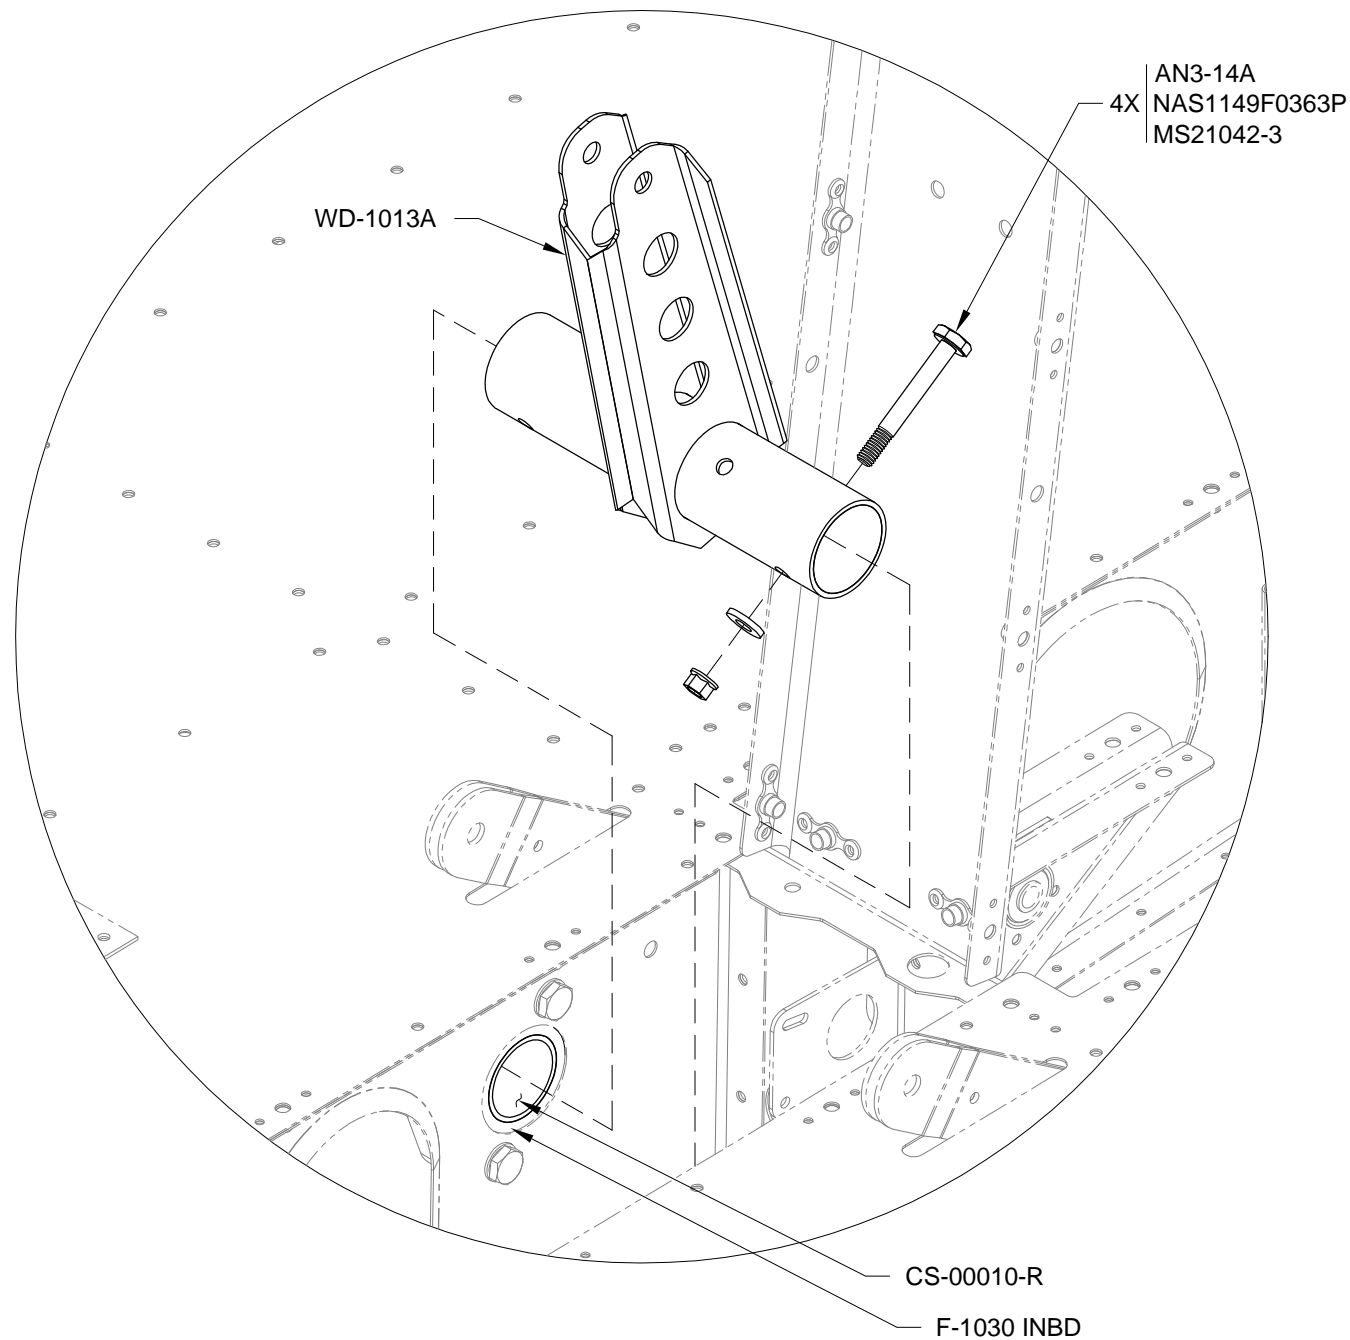

FIGURE 1: FLAP CONTROL HARDWARE
Step 1: Insert the WD-1013A Flap Crank into the tunnel in line with the axis of the two CS-00010-L & -R Flap Torque Arms and push the flap torque arms into the flap crank tube. See Figure 1.
Step 2: Align the bolt holes and insert the hardware called out in Figure 1 into the WD-1013 Flap Crank.